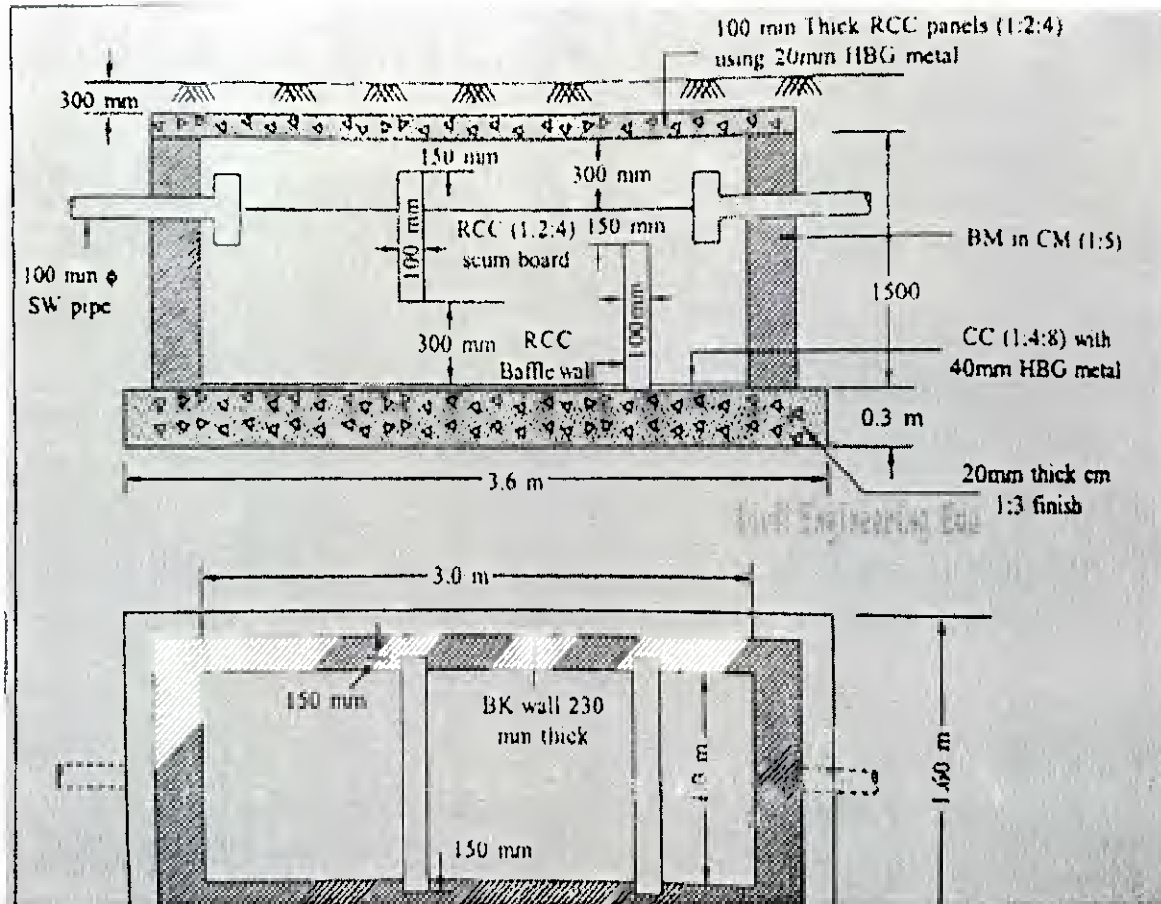

Fig:4
B. Prepare an detailed estimate & abstract estimate of Septic tank.(Fig.4)